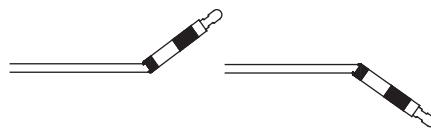

Figure 6
- Next straighten the pusher back, continue bending and straightening until the pusher tubing opens exposing the release element (Figure 6).